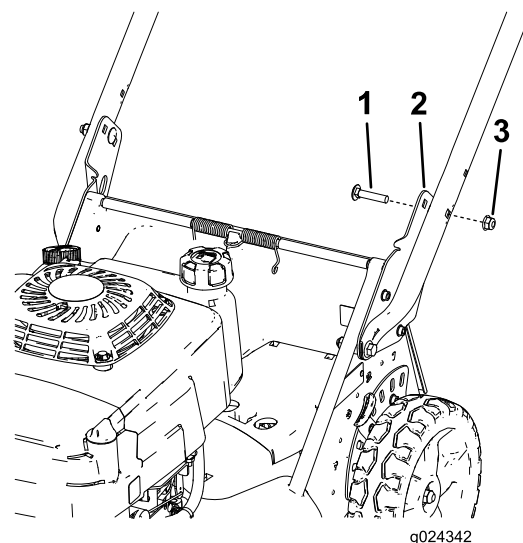

Figure 6
2. Handle bracket (2)
6. Secure the handle onto the handle brackets at your desired handle height with 2 carriage bolts (5/16 x 1-1/2 inches) and 2 flange nuts (5/16 inch) as shown in Figure 6.